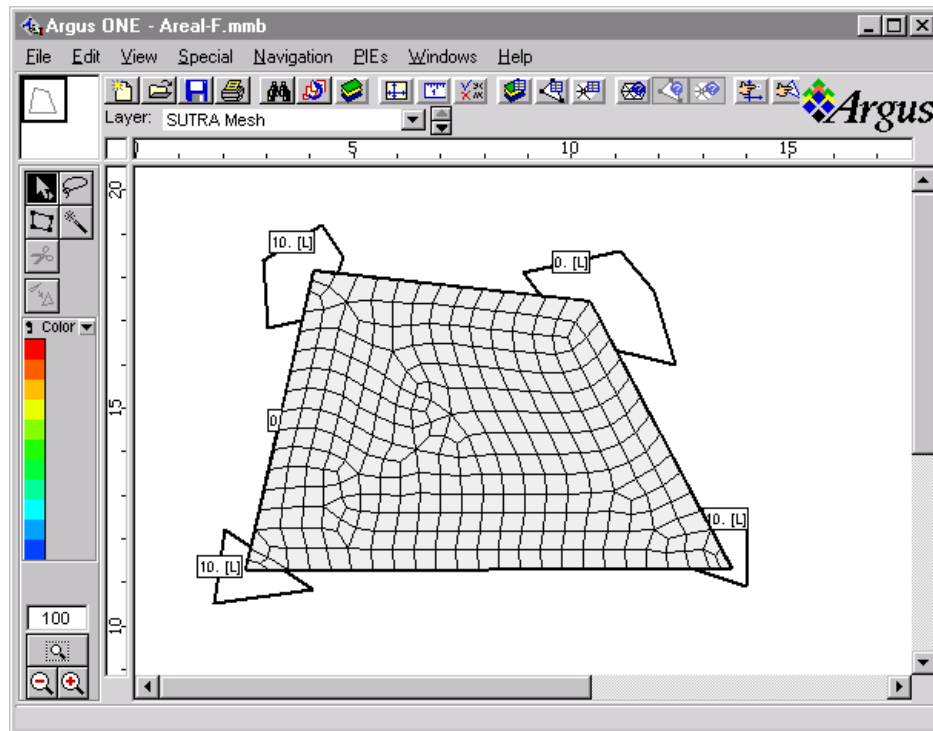

Figure 3. SUTRA Mesh in Areal Ground-Water Flow Step-by-Step Example
15. Click on the 'magic wand' found along the left side of the *Argus ONE* window near the arrow, and then click the magic-wand cursor inside the model boundary just drawn. An irregular finite-element mesh containing elements of about 0.5 size is generated and displayed. Figure 3 shows the type of mesh that may be expected.
17. Save the project so far by clicking **File**, and then **Save As....** Select the desired directory and type in the desired name (e.g. "Areal-F" for areal flow model) and then click on **Save**. A project file called Areal-F.mmb is created in the directory you chose, and the window name becomes the same, as shown in Figure 3.